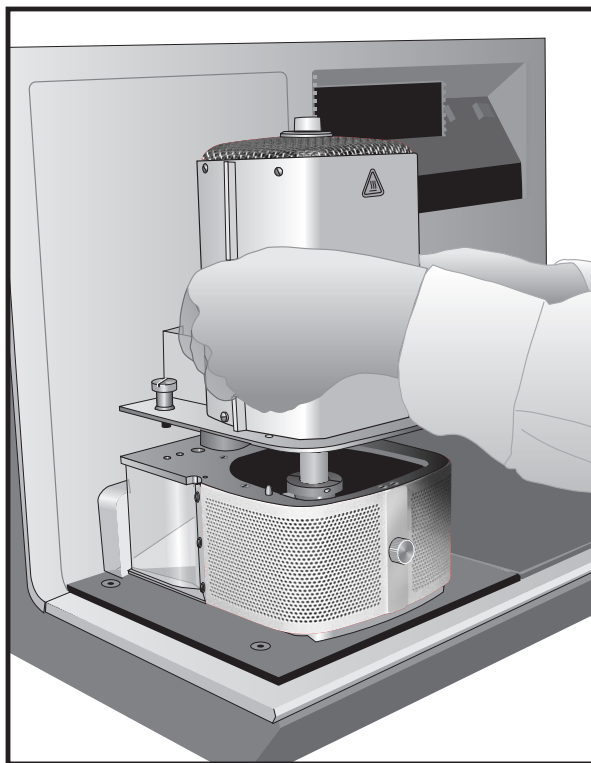

Figure DTA.11
3. Slide the DTA cell onto the DSC 2920 CE, following the alignment guides on the instrument until the connectors are firmly plugged in (see Figure DTA.11). When the cell is fully mated with the connectors, you will see the following message on the instrument's display: